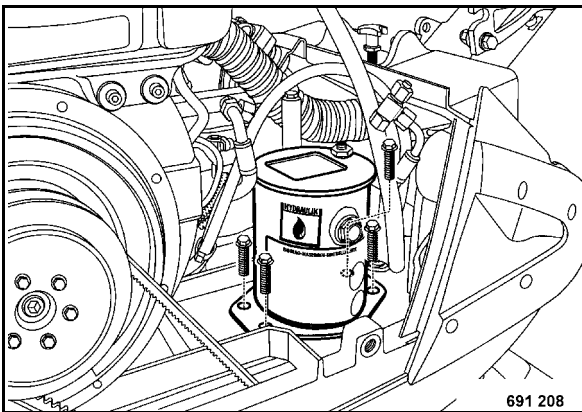

Fig. 76
- Unscrew and empty the hydraulic tank (Fig. 76).